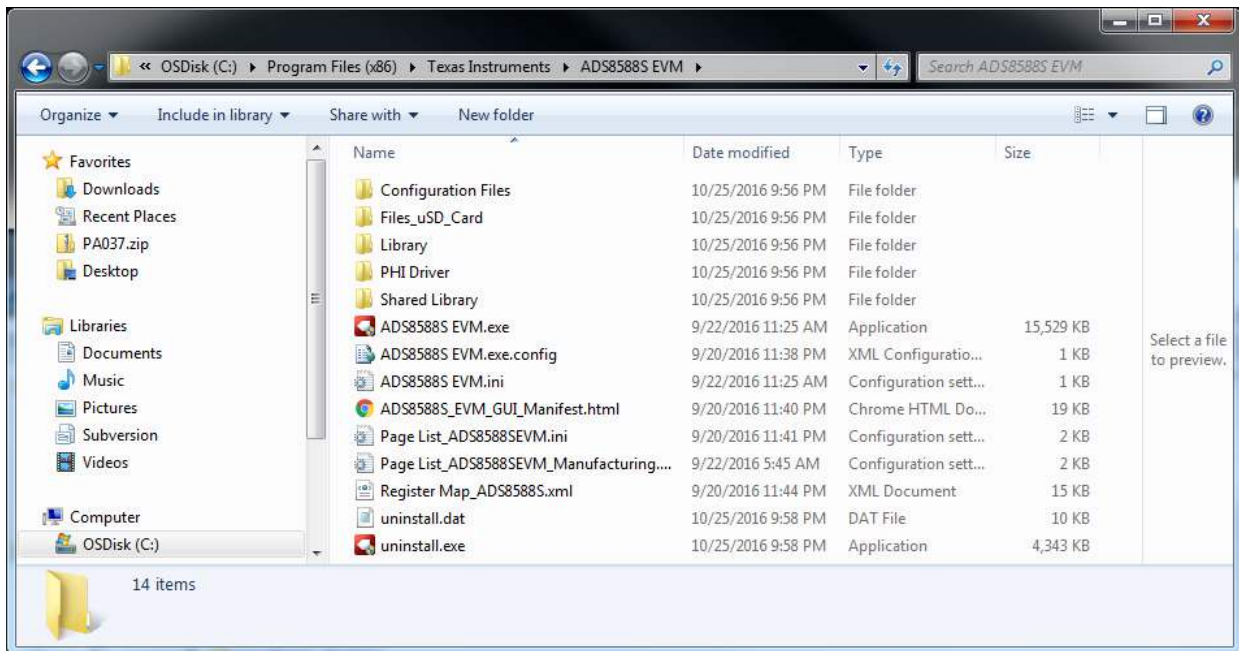

Figure 9. Launch the ADS8588SEVM GUI Software
3. Double click the *ADS8588S EVM.exe* file to launch the EVM GUI, as shown in Figure 9.